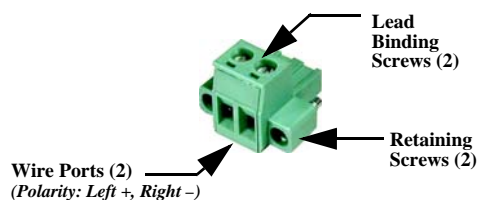

Figure 4. DC Power Connector
4. **Connect primary power.** Input power must be 10.0 to 60 Vdc and capable of providing at least 15 watts. A power connector with screw-terminals is provided (see Figure 4). Strip the wire leads to 6 mm (1/4 inch) and insert them into the wire ports. Be sure to observe proper polarity as shown. Tighten the binding screws securely.